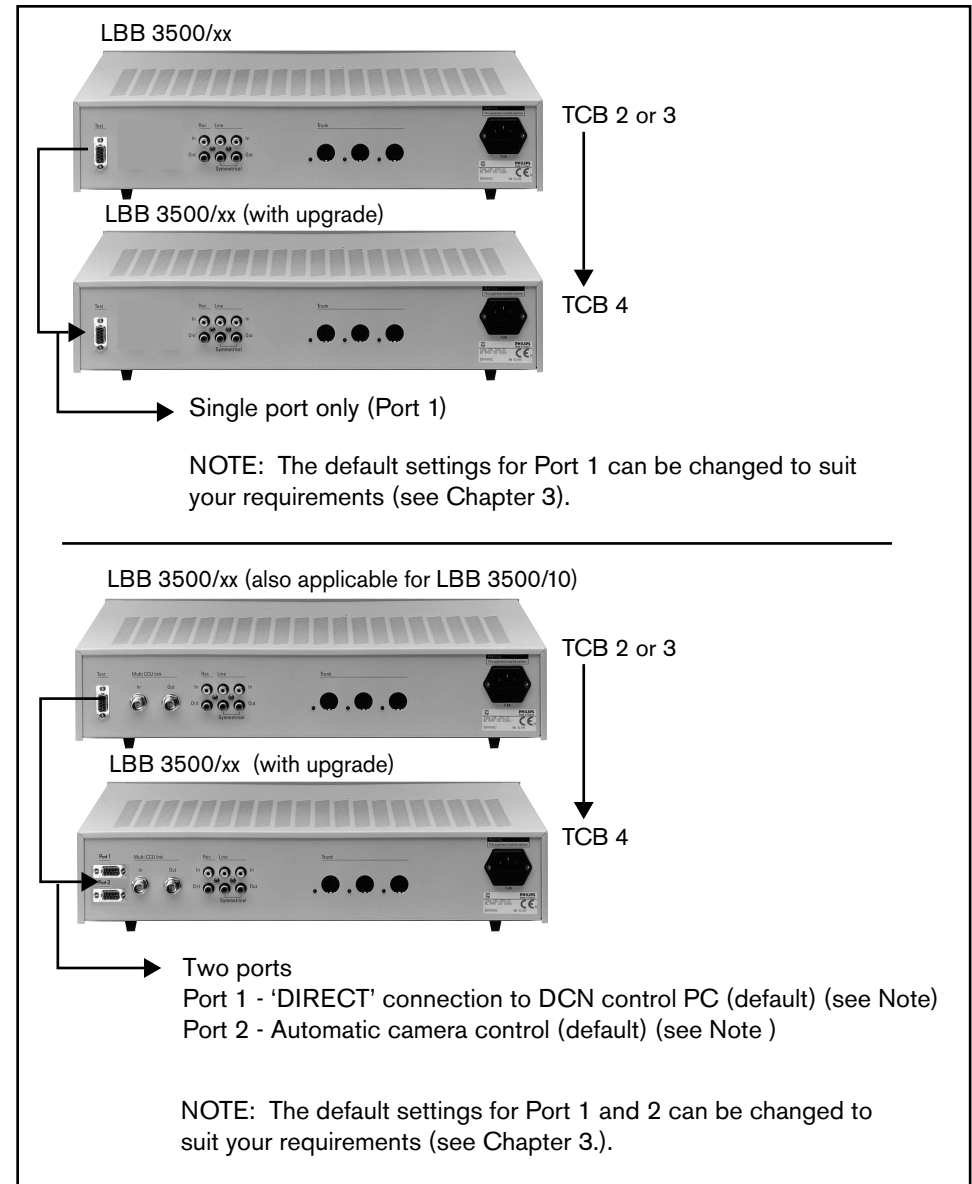
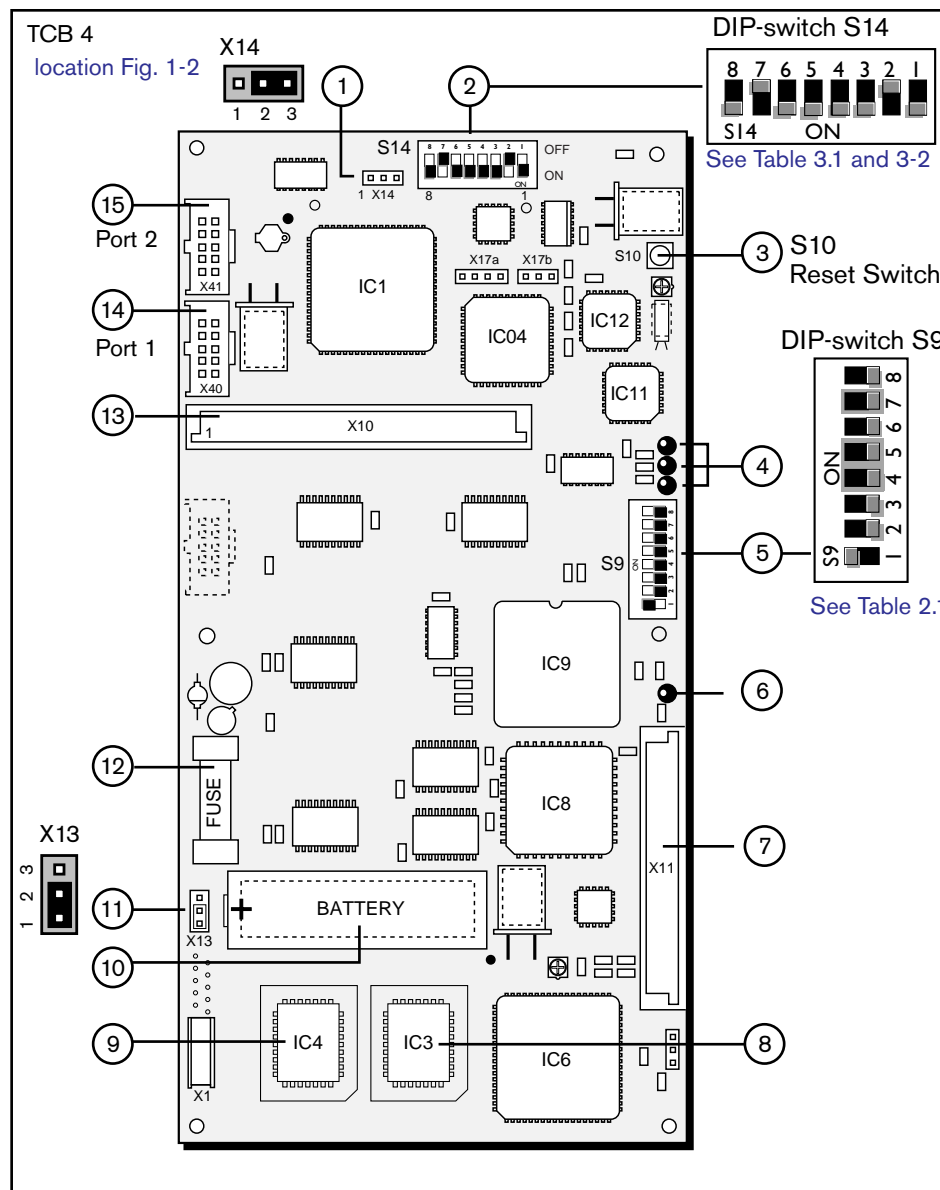

FIGURE 1-1 CCU upgrade kit LBB 3519/20
FIGURE 2-1 Layout 'Trunk Communication Board (TCB 4)
2. Locate the TCB (version 2 or 3). For location of the TCB see Fig 1-1.
4. With reference to FIGURE 1-1 and FIGURE 2-1 connect Port 1 and if applicable Port 2.
6. Double check connections according to FIGURE 1-1 and FIGURE 2-1.
Key to symbols (fig.2-1) :
See fig. 2-1 for location, and Table 2.1 for functionality of the DIP-switches.
See fig. 2-1 for location, and Table 2-2 for functionality of the jumpers.
For location of DIP-switches see fig. 2-1